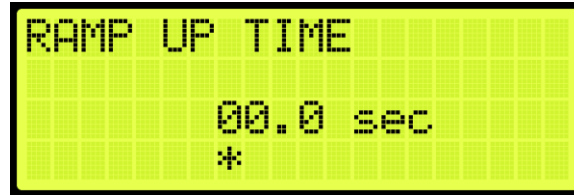

Figure 314: RAMP UP TIME Menu
- From the RAMP UP TIME menu, set the time for the soft starter to ramp up to full voltage (See Figure 314).